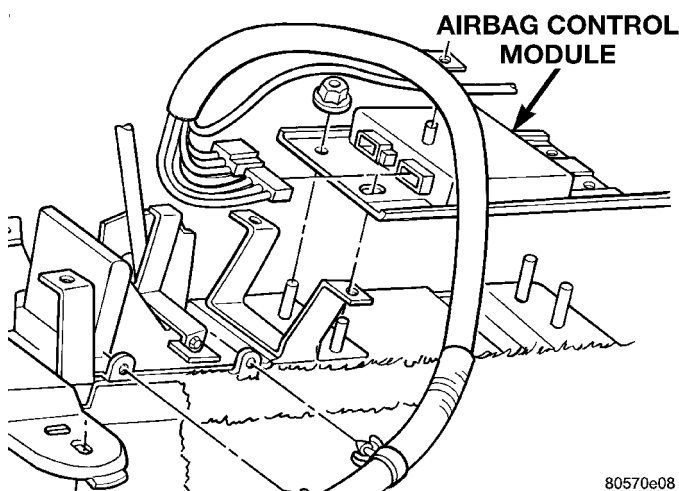

Fig. 13 ACM Connectors
(13) Disconnect ACM 4-way and 13-way connectors (Fig. 13).
(14) Remove Airbag Control Module.